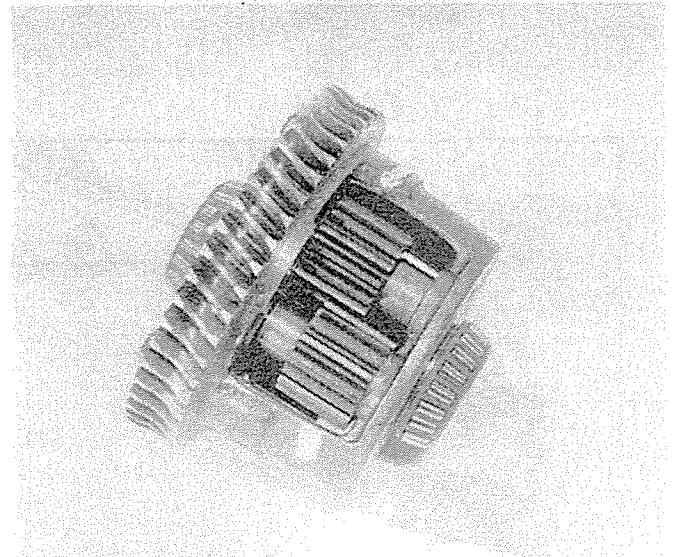

Figure 3
9. Using a piece of chalk, mark the position of the planet gears on the differential carrier housing as illustrated in Figure 3.